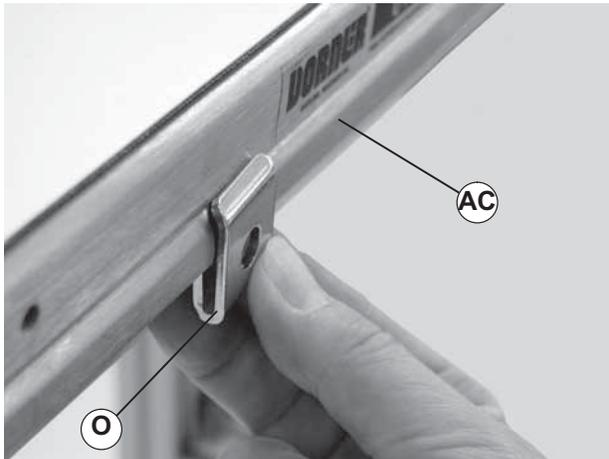

Figure 9
- a. Place mounting clip (Figure 9, item O) onto conveyor quick clamp mounting rail (AC).
<p>Failure to secure screws (Figure 9, item Y) may cause conveyor sections to drop down causing severe injury.</p> <p>TIGHTEN SCREWS (Y) AFTER ADJUSTMENT.</p>